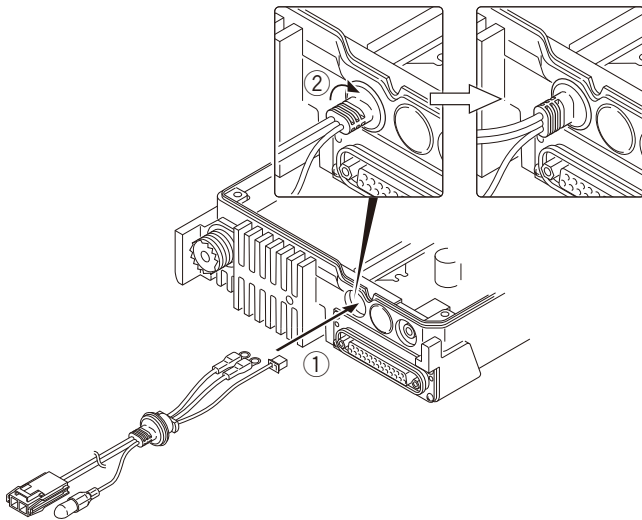
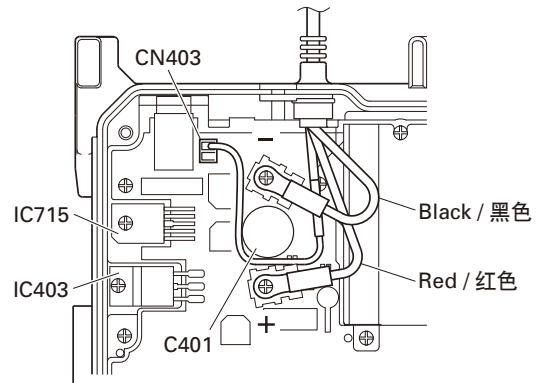

Fig. 4-1 / 图 4-1
Fig. 4-2 / 图 4-2
1. Pass the power supply cable through the chassis hole (①) as shown in Figure 4-1 and insert the bush into the chassis hole.
2. Rotate the bush of the power supply cable 90 degrees clockwise as viewed from the rear of the chassis. (②)
4. Align the + (positive) terminal of the power supply cable (red) as shown in Figure 4-2 and fix it to the terminal strip with a screw.
5. Align the - (negative) terminal of the power supply cable (black) as shown in Figure 4-2 and fix it to the terminal strip with a screw.
1. 如图 4-1 所示，将电源线穿过底座孔 (①)，然后将套管插入底座孔。
2. 从底座后部方向上看，顺时针 90 度转动电源线的套管。(②)
4. 如图 4-2 所示，对准电源线 (红色) + (正极) 端子，然后用螺丝将其固定到端子板。
5. 如图 4-2 所示，对准电源线 (黑色) - (负极) 端子，然后用螺丝将其固定到端子板。